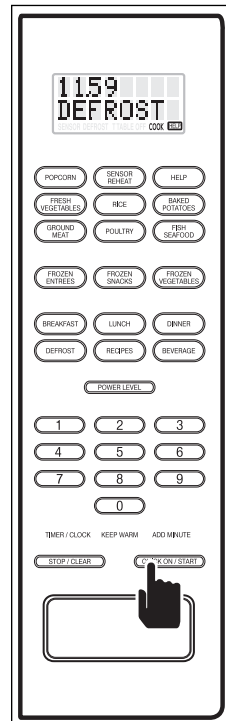

Figure 3-59.
5. Press the QUICK ON/START key to resume the auto defrost process and the display will show the remaining time as it counts down along with the word “DEFROST” (See Figure 3-59). At the end of the defrost time, “END” will flash on the display and the alarm will beep.